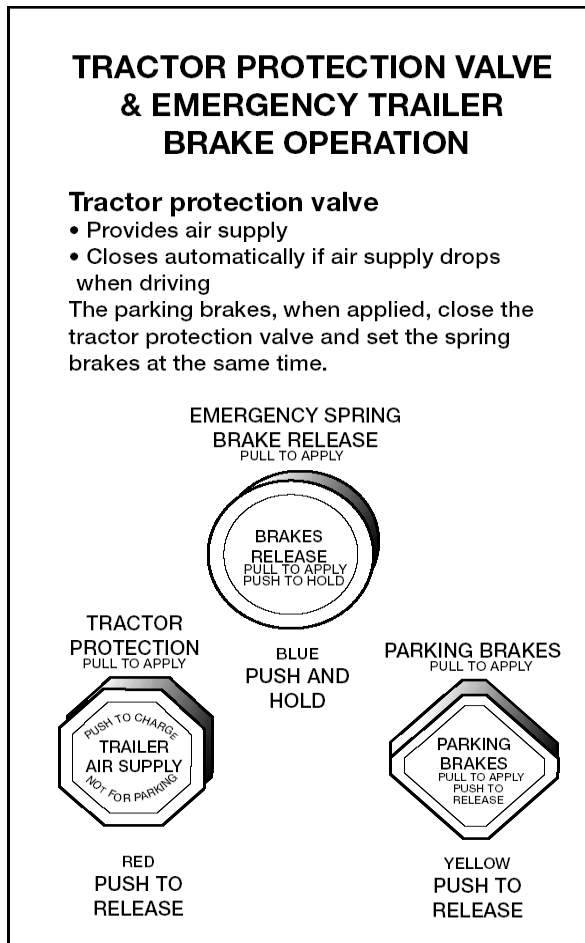

Figure 5.3
**Dual Parking Control Valves.** When main air pressure is lost, the spring brakes come on. Some vehicles, such as buses, have a separate air tank which can be used to release the spring brakes. This is so you can move the vehicle in an emergency. One of the valves is a push-pull type and is used to put on the spring brakes for parking. The other valve is spring loaded in the "out" position. When you push the control in, air from theseparate air tank releases the spring brakes so youcan move. When you release the button, the spring brakes come on again. There is only enough air in the separate tank to do this a few times. Therefore,plan carefully when moving. Otherwise, you may be stopped in a dangerous location when the separate air supply runs out. See Figure 5.3.